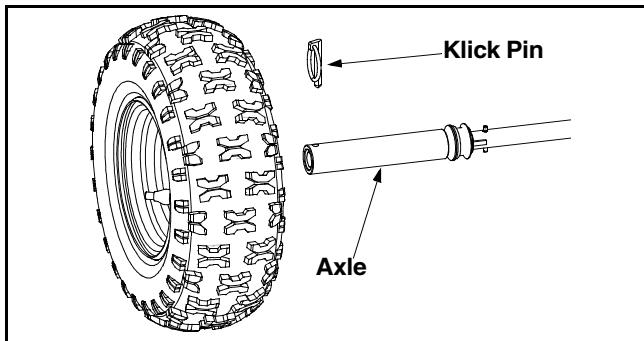

Figure 21
- Oil or spray lubricant into bearings at wheels at least once a season. Pull klik pin, remove wheels, clean and coat axles with a multipurpose automotive grease. See Figure 21.